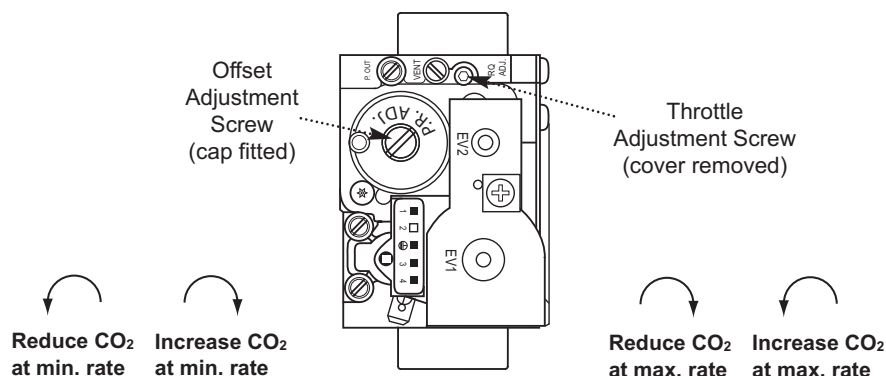

Fig. 100
2. It is possible to alter the CO2 by adjustment of the gas valve. At maximum rate the Throttle Adjustment Screw should be turned, using a suitable 2.5mm hexagon key, until the correct reading is obtained (Fig. 100).
4. With the boiler on minimum, the Offset Adjustment Screw must be altered, using a suitable 4mm hexagon key, after removing the cap (Fig. 100).